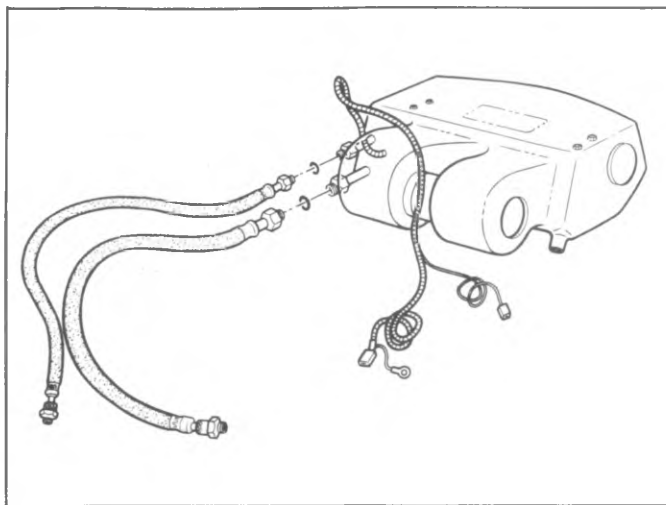

Fig. 1B-77-Blower-Evaporator (Motor Home Chassis Units)
1. Install the blower wheels on the motor so that the lower blades curve toward the dash panel side of the unit when the motor is placed in the case as illustrated in Figure 1B-79.
Removal (Fig. 1B-80)